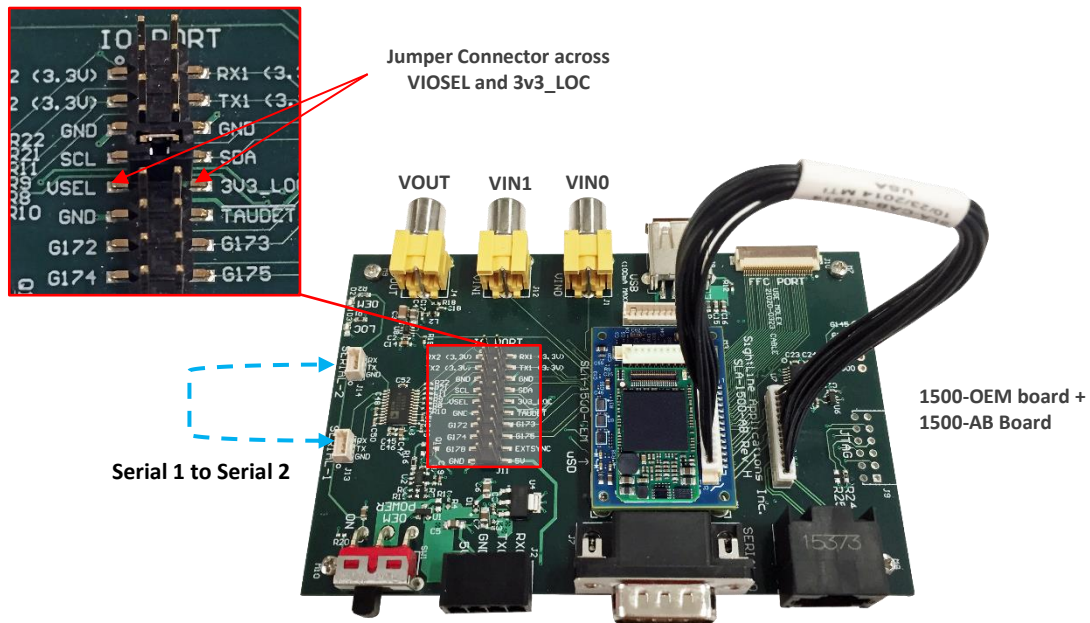

Figure 15: Serial 1-to-Serial 2 On-Board Test
A jumper must be in place across VIOSEL and 3v3_LOC as shown in *Figure 15*. Connecting VIOSEL to 3.3V enables Serial Port 1 and Serial Port 2.
1. Using two terminal windows (both windows using SSH), connect Serial-1 to Serial-2 as shown in *Figure 15*.